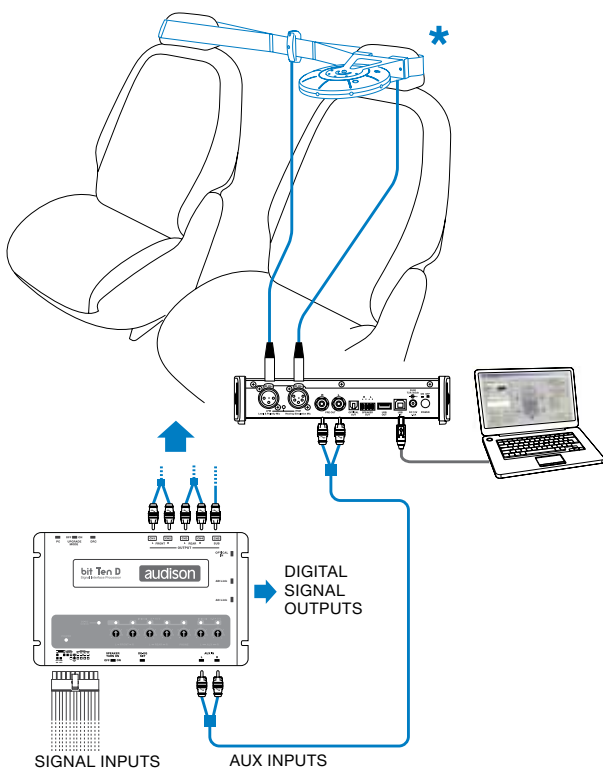

Fig. 1
1. Connect the bit Tune to the Audison bit processor, as shown in fig. 1 or 2 (see points **A** and **B**). The AUTO TIME ALIGNMENT procedure must be performed in an environment that is not noisy, with the car's engine off, air conditioning off, doors and windows tightly closed and radio frequency devices away from the car's passenger compartment.